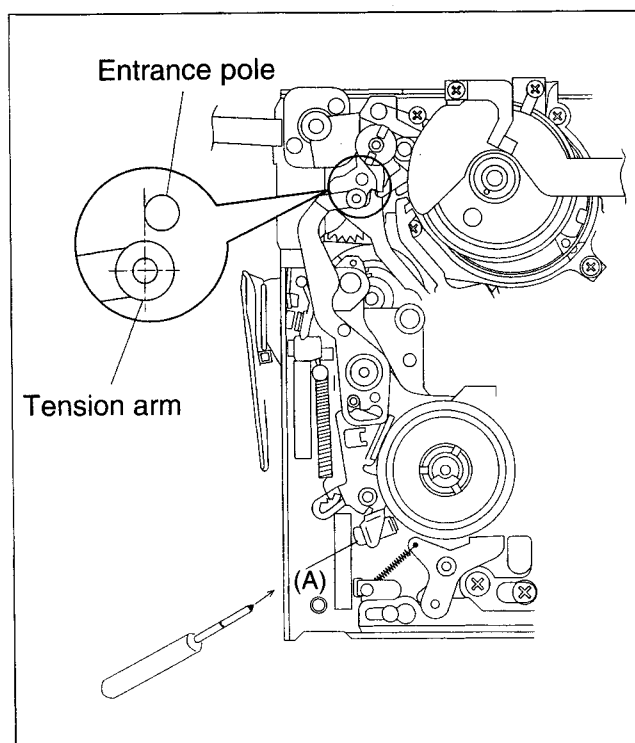

Fig. 2-2-16
- (2) Adjust the position of the pole of the tension arm with the screw (A) so that its relative position to the entrance pole is as shown in Fig. 2-2-16. (Adjust the screw (A) with a precise Philips screwdriver ⊕ from the left side.)